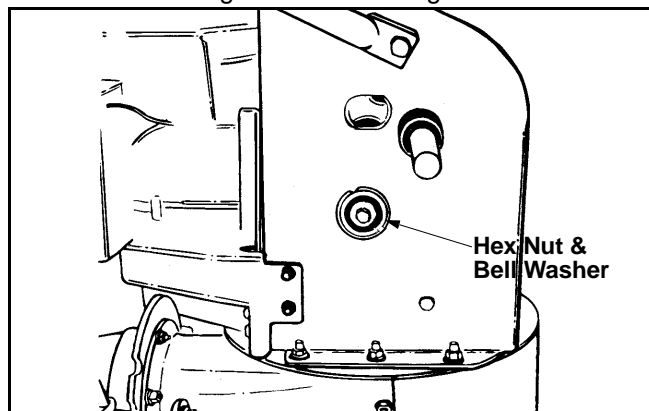

Figure 31
- Using a wrench to hold the shaft, loosen, but do not completely remove, the hex nut and bell washer on the left end of gear shaft. See Figure 31.